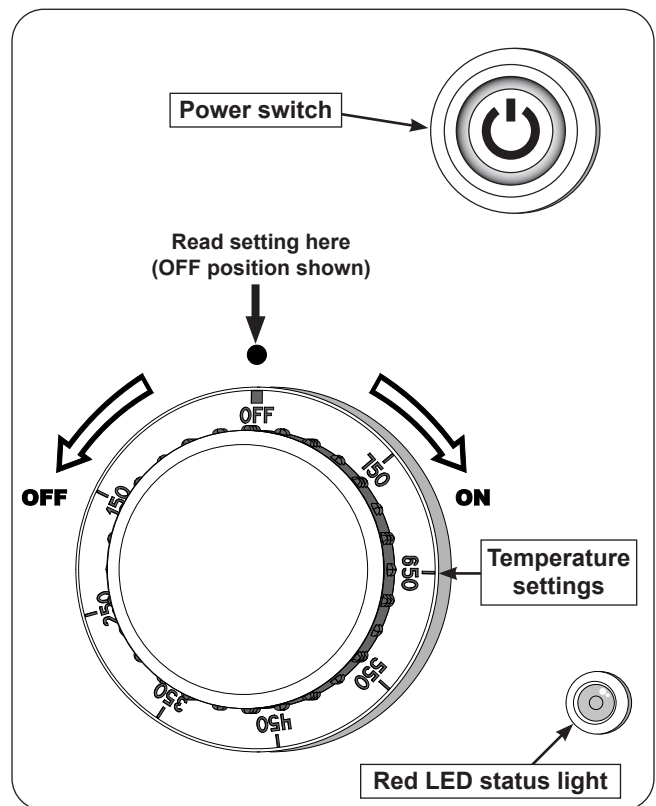

Fig. 29-1 Ignition components
3. Turn on the gas at its source. Then press the power switch (see Fig. 29-1).
For your convenience and safety, when the ignition system is lighting the unit AND when the burners are lit, the red LED status light will illuminate (see Fig. 29-1).